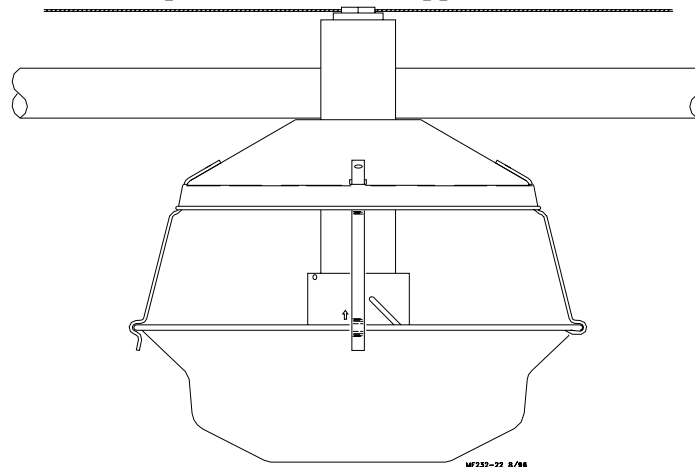

Figure 25. Install Feeders on Tubes
2. Rotate the feeder tube so the tab at the outlet hole will pass throughout the notch in the Drop Tube. Rotate the tube 180 degrees to lock the pans in place, **see figure 25**. Make sure outlet holes are down.